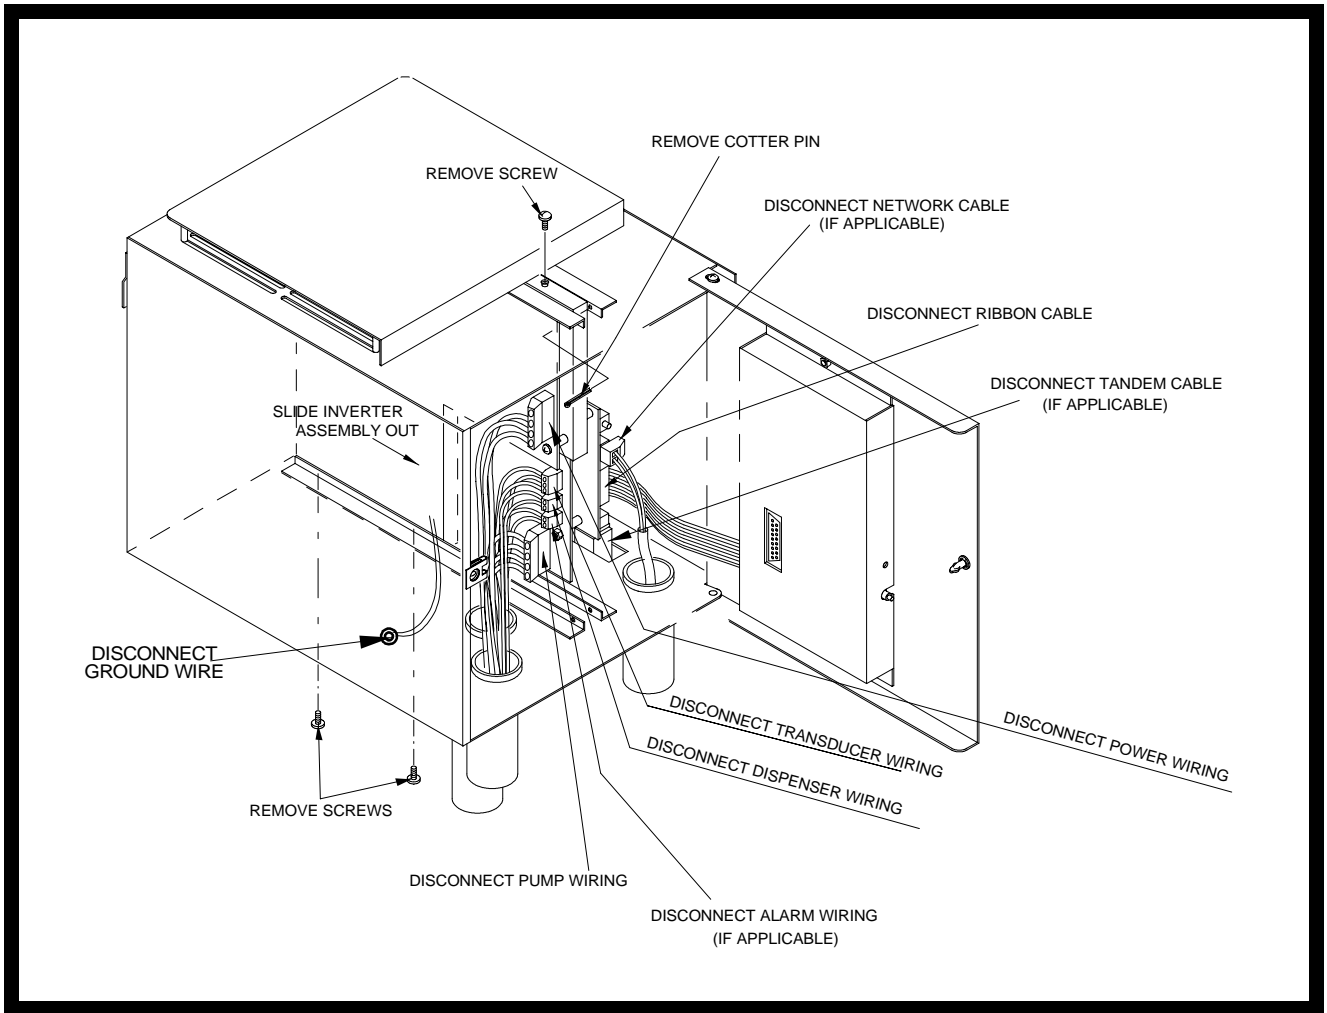

Figure 1 Disconnecting and removing the inverter board assembly
- 2 Record the location of each wire before disconnecting. Incorrect wiring can cause catastrophic failure of the inverter board. Disconnect the AC input lines. Disconnect dispenser, transducer, pump, and alarm wiring (if applicable). See figure 1.
- 3 Disconnect the ground wire from the inverter heatsink plate to the chassis ground lug. Refer to figure 1.
- 4 Disconnect the ribbon cables from connector J5. (Refer to figure 1) Disconnect the network cable from connector J3 (if applicable).
- 5 Disconnect the tandem cable from the RS232 serial port (if applicable). (Refer to figure 1)